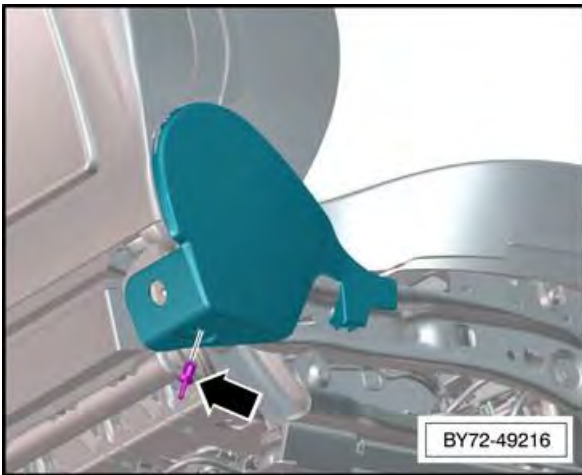

Figure 21
- Remove the expansion rivet -1- at the rear of the seat (see Figure 21)